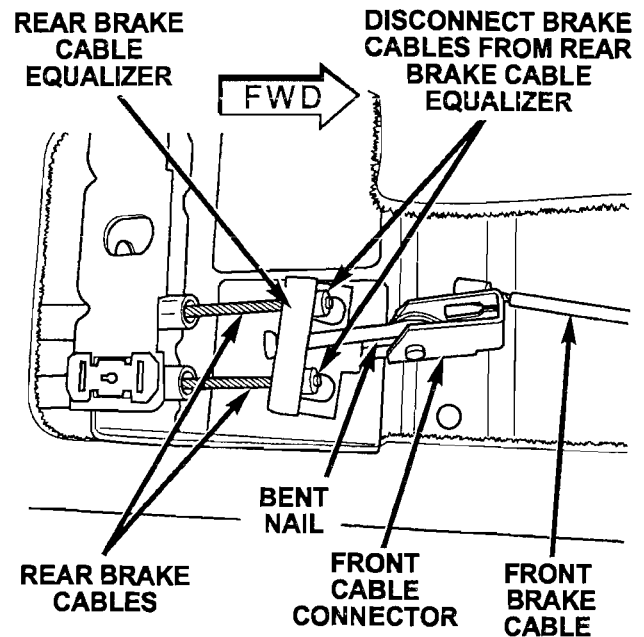

Figure 5
12. Disconnect the rear brake cable equalizer from the rear park brake cables (Figure 5).